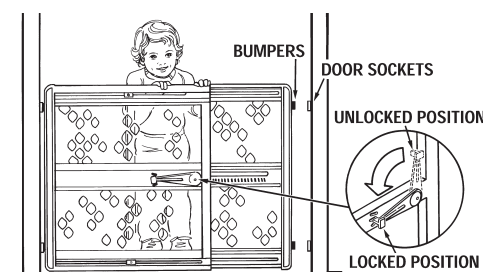

Figure 6
1. With locking handle in unlocked position, and on side opposite of area accessible to child, place bumpers on one side of gate into door sockets on one side of doorway (figure 6).